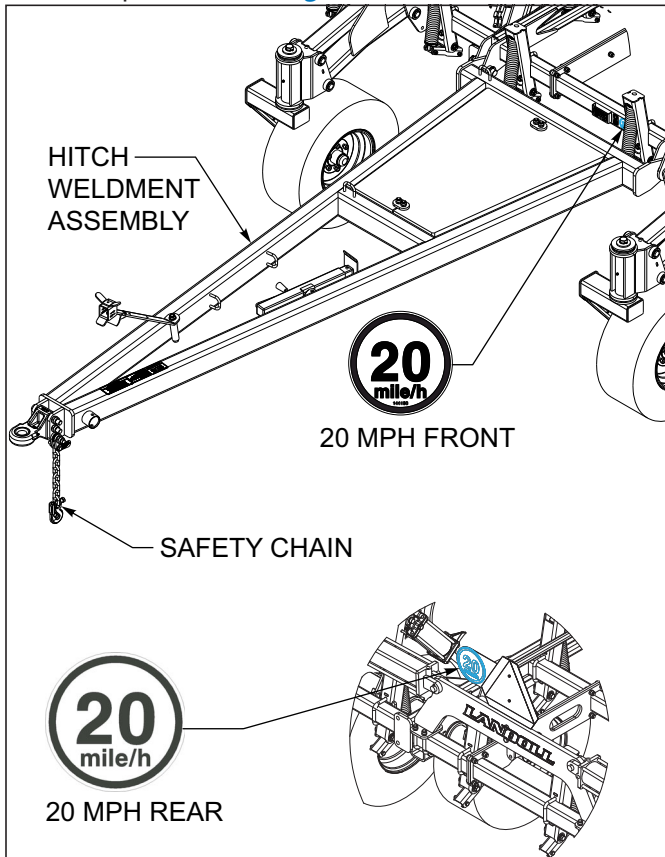

Figure 4-5: Hitch, Speed Identification Symbol, and Safety Chain
2. The Field Cultivator should be transported only by tractor required for field operation. The implement weight should not exceed more than 1.5 times the tractor weight. Unless noted on the implement, maximum transport speed is 20 mph for the implement and is designated on the speed identification symbol located on the front and rear of the implement See Figure 4-5.
8. Attach the safety chain to the tractor drawbar, refer to the tractor operator's manual for proper placement, See Figure 4-5. Provide only enough slack in the chain for turning. Do not use an intermediate chain support as the attaching point for the chain on the tractor. Do not pull the implement by the safety chain.